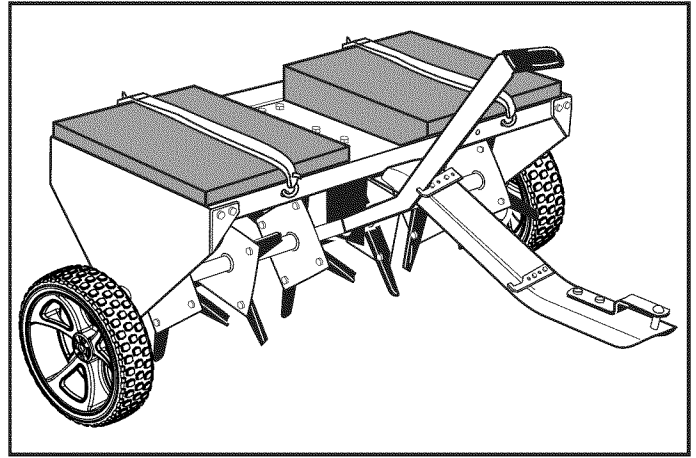

FIGURE 13
- To increase the depth of plugger point penetration, up to 140 lbs. of weight, such as bags of sand or (4) concrete blocks, may be added to the tray. The weight can be secured to the tray with ties or straps fastened to the front and rear of the tray. Fasten so that the ties or straps cannot become entangled on rotating parts. See figure 13.